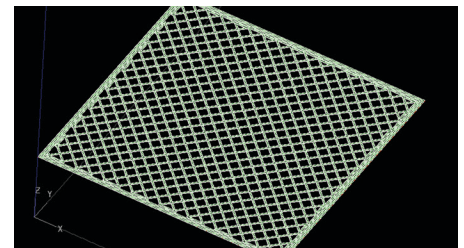

Figure 48: Sparse – double dense fill uses crossing rasters on each layer.
- Same as Sparse except bi-directional rasters on each layer (Figure 48).